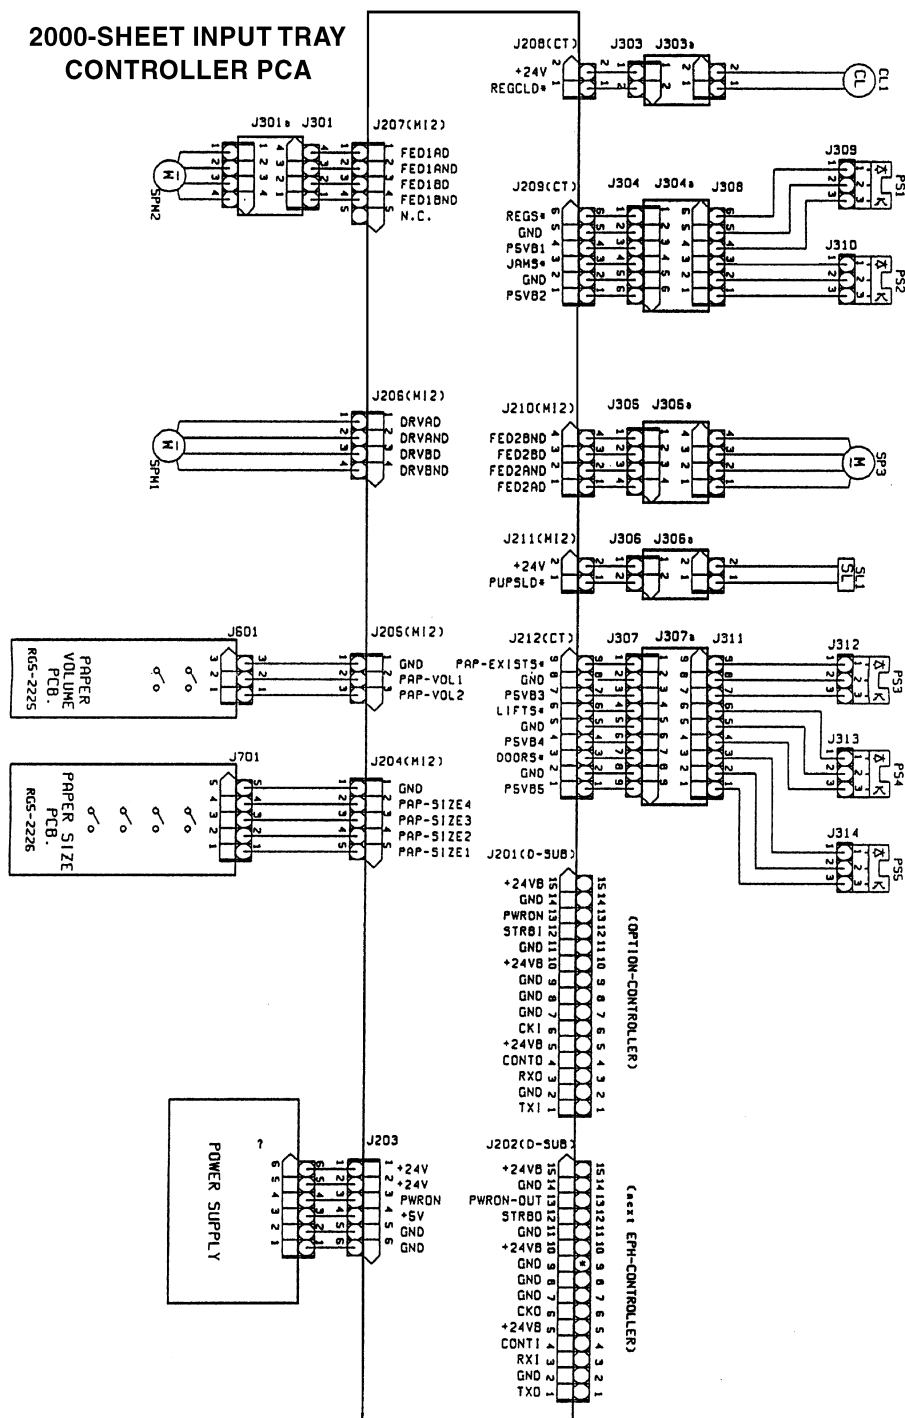

Figure 7-35 2000-sheet Input Tray Main Wiring Diagram
- Figure 7-35, "2000-sheet Input Tray Main Wiring Diagram," on page 701